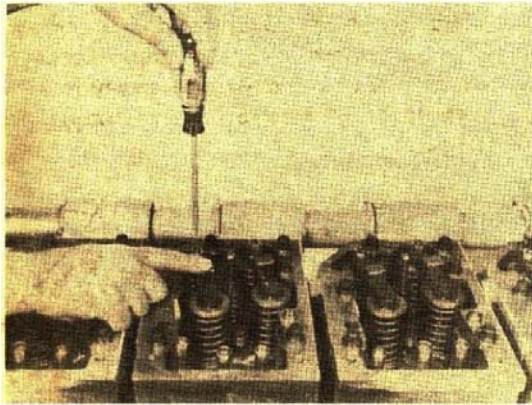

Fig. 14-56 Adjust the valve crosshead
2. Loosen the adjusting screw locknuts and back the adjusting screws off one (1) turn, if not previously done.
3. Use light finger pressure at rocker lever contact surface to hold the crosshead in contact with the valve stem nearest the push rod. Turn the adjusting screw down until it contacts its mating valve stem. Fig. 14-56.